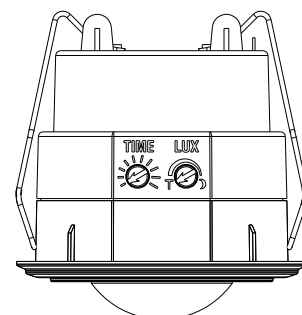

FIGURE 6
- (1) **TEST MODE**
- Turn the Lux control and the Time control counter-clockwise to the edge-the TEST position. (FIGURE 6)